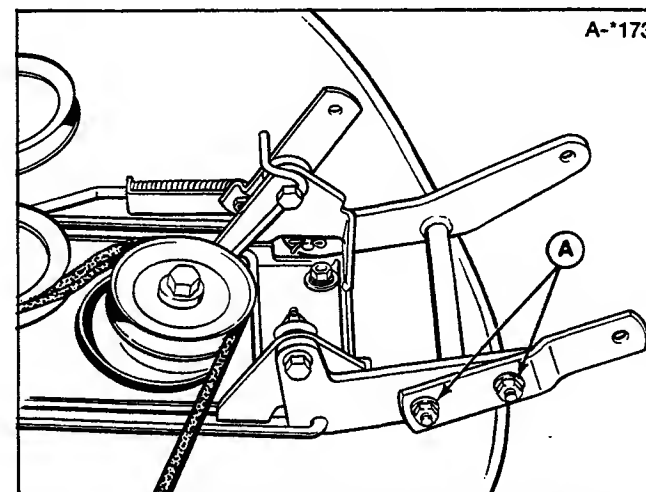

Figure 35. Mower Hitch (shown removed from tractor)
4. Disengage the PTO. Loosen the flange nuts (A, figure 35) on the front hex bolt and rear carriage bolt.
6. Retighten the flange nuts (A, figure 35). Torque nuts to 65 ft. lbs.